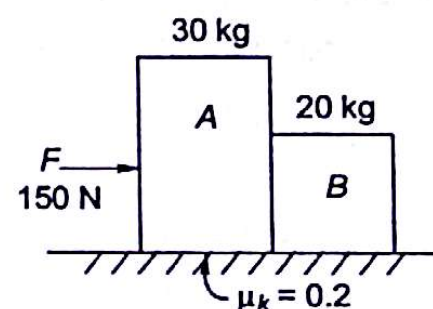

Fig. 14.13
Exercise 14.3 Two blocks A and B of masses 30 kg and 20 kg are resting on a rough horizontal floor as shown in Fig. 14.13. A force $F = 150 \text{ N}$ is applied on A. If μ_k for both blocks and floor is 0.2. Determine (1) acceleration of masses, (2) reaction between two blocks.